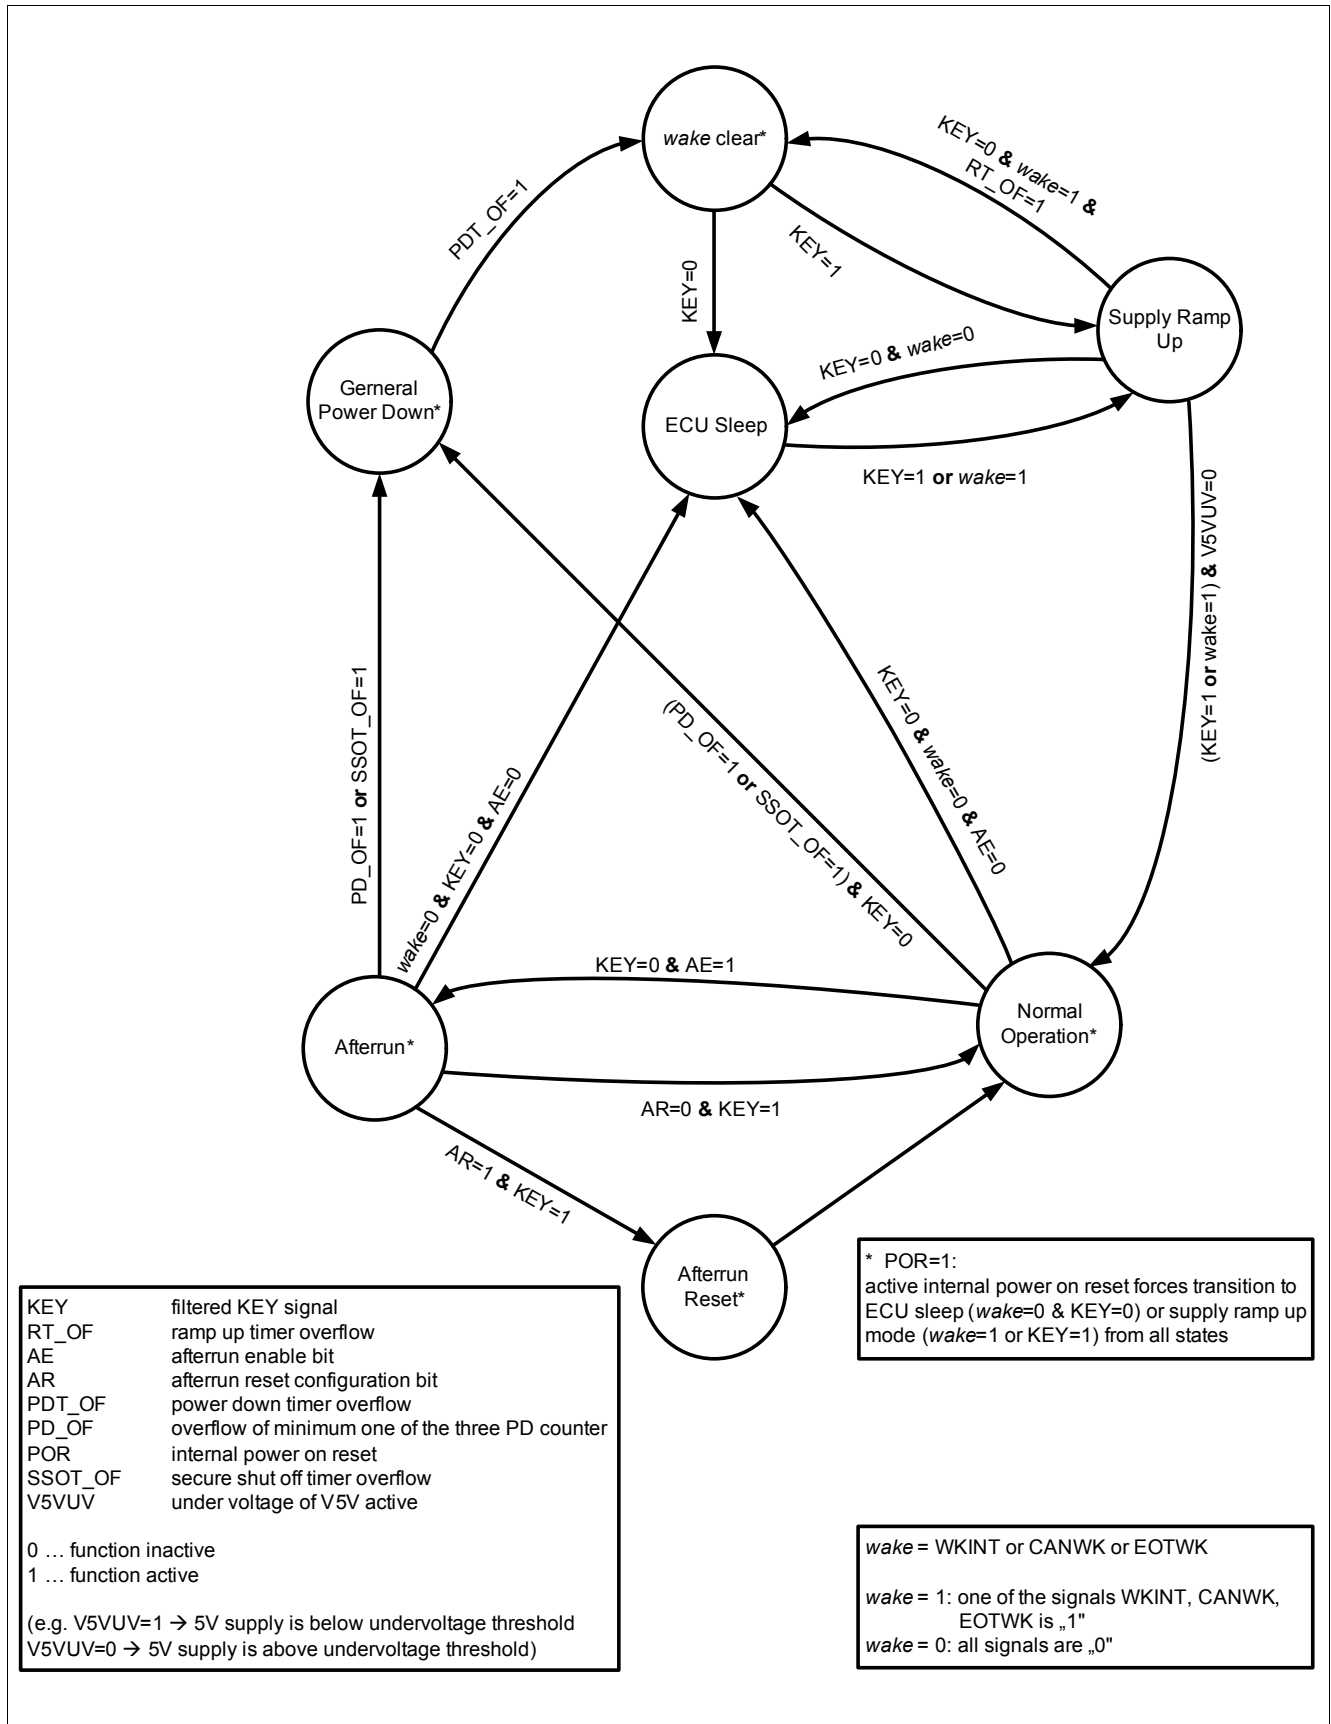

Figure 4 Operation state diagram
In **Figure 4** the state diagram of the whole ramp up and down sequence is shown. There are seven operation states:
1) description see Figure 4, Chapter 7.2, Chapter 7.4 and Chapter 12.2.4